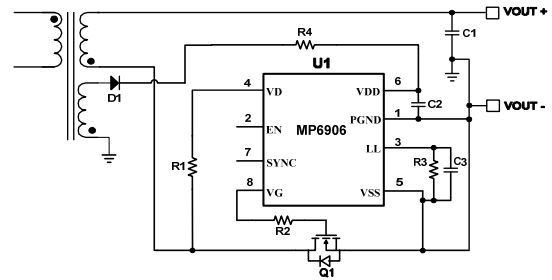
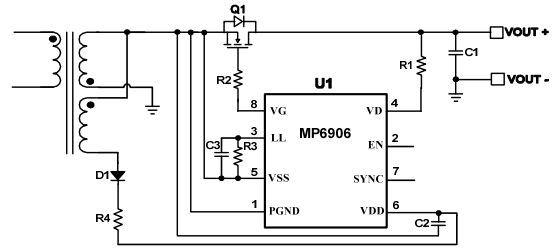

Figure 10: IC Power Derived from the Auxiliary Winding in Low-Side Rectification
Figure 11: IC Power Derived from the Auxiliary Winding in High-Side Rectification
If the output voltage is out of the V_{DD} operating range or high-side rectification is used, an auxiliary winding solution for the IC's power supply is recommended (see Figure 10 and Figure 11). The auxiliary winding turn count (N_{au}) can be set using Equation (2):